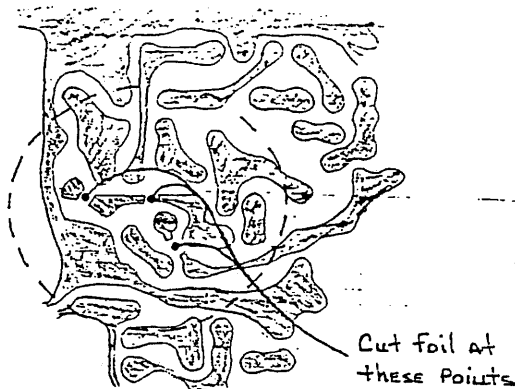

FIGURE 1
- Cut the foil patterns labeled A-E in figure 1.
- Add the jumpers wires labeled F-H in figure 1.
8. Using a small craft knife, cut the foil at the 3 points shown in figure 1 (top right corner of the board).
5. To access the bottom of the board remove the 8 screws that mount the board and heat sink to the chassis (See figure 1).